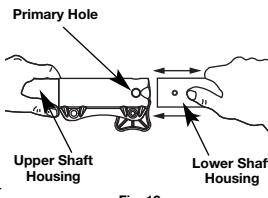

Fig. 12
- While firmly holding the upper shaft housing, pull the cutting attachment or add-on straight out of the EZ-Link™ coupler (Fig. 12).
- While firmly holding the add-on, push it straight into the EZ-Link™ coupler (Fig. 12).